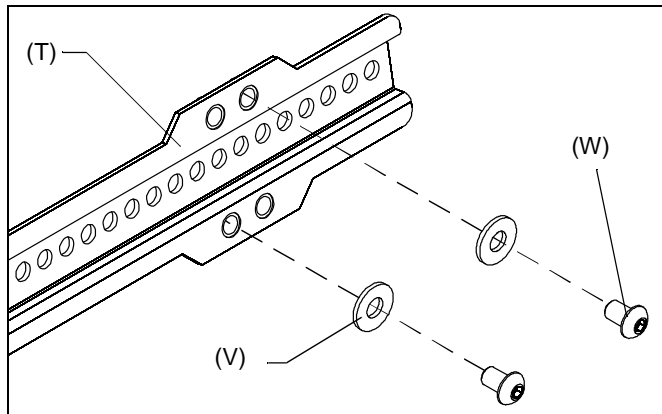

Figure 7
IMPORTANT ! : Attach uprights with four screws per display bracket (T), two at each end. If possible, attach the uprights with one screw in a top hole and one diagonally located in a lower hole on each end of the display bracket. (See Figure 7) At the minimum, one screw should be in a top hole, and one in a bottom hole at each end of the display bracket.